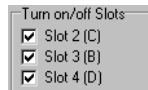

Figure 2-7. Enable Slots
9. Select and check each of the **Turn on/off Slots** check boxes to enable the corresponding internal slots (Figure 2-7).